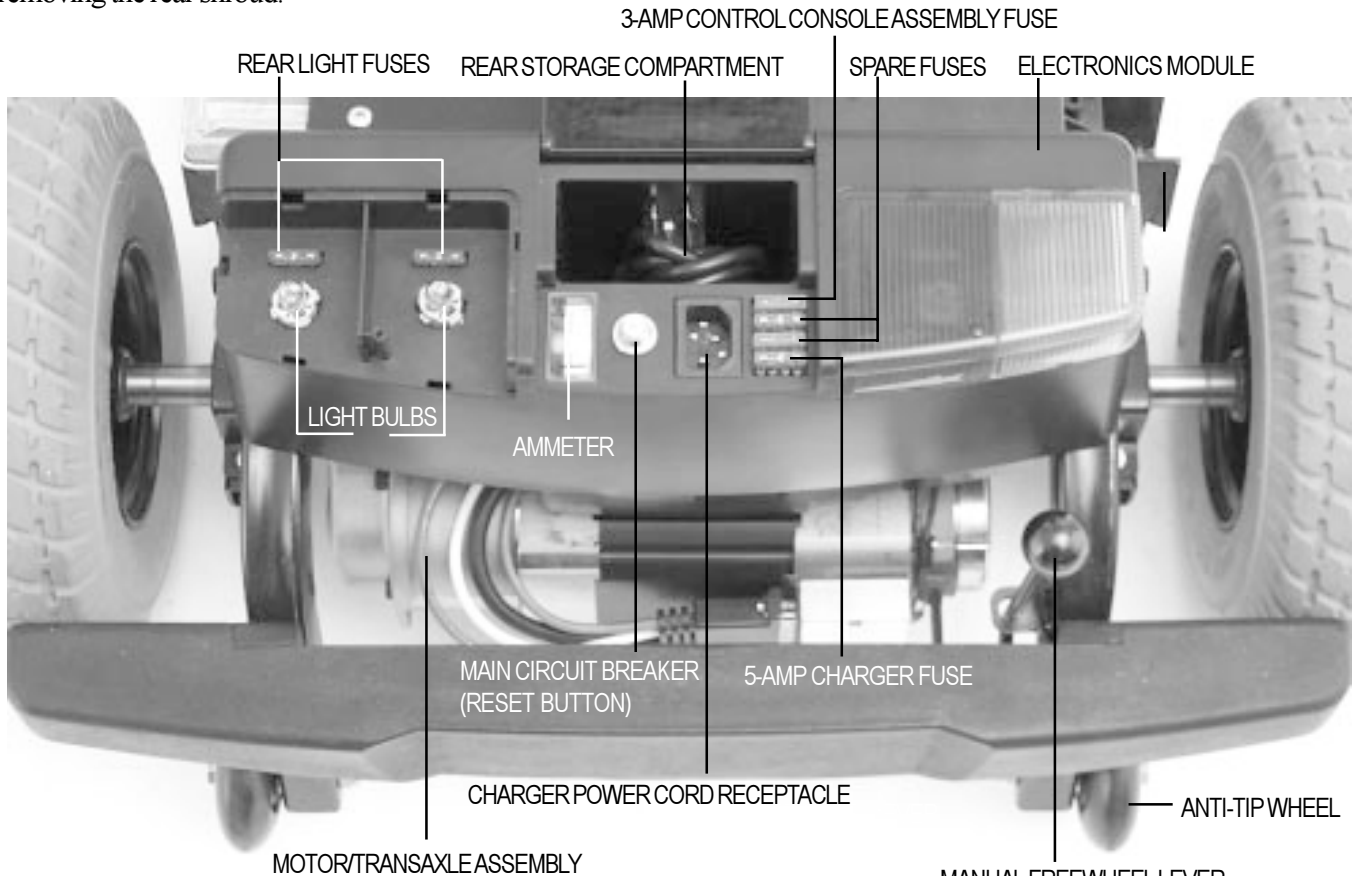

FIGURE 8. REAR SECTION (LEFT LIGHT COVER REMOVED FOR CLARITY)
The onboard battery charger (not shown), the charger power cord receptacle, the batteries (not shown), the electronics module, the main circuit breaker (reset button), the ammeter, the manual freewheel lever, and the motor/transaxle assembly are located on the rear section of your Laser. See figure 8. Refer to IX. “Disassembly and Assembly” for instructions on removing the rear shroud.
When the voltage in your Laser’s batteries becomes low or your Laser is heavily strained because of excessive loads or steep inclines, the main circuit breaker may trip to protect your Laser’s motor and electronics from damage. See figure 8.
- The manual freewheel lever is located on the end of the motor/transaxle assembly at the right rear of the Laser. See figure 8.
The motor/transaxle assembly is the electromechanical unit that converts the electrical energy of your Laser's batteries into the controlled mechanical energy that drives the Laser's wheels. See figure 8.